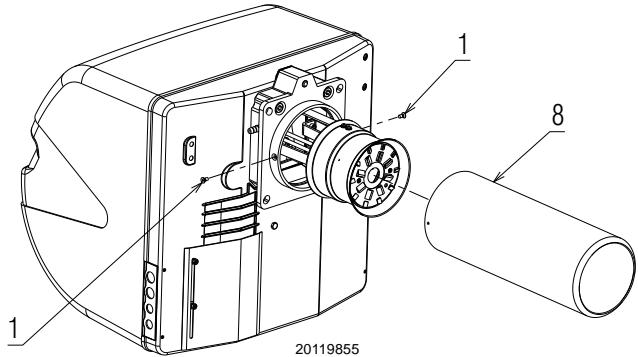

Fig. 2
- unscrew the two screws 1)(Fig. 2) and remove the flame funnel 8);